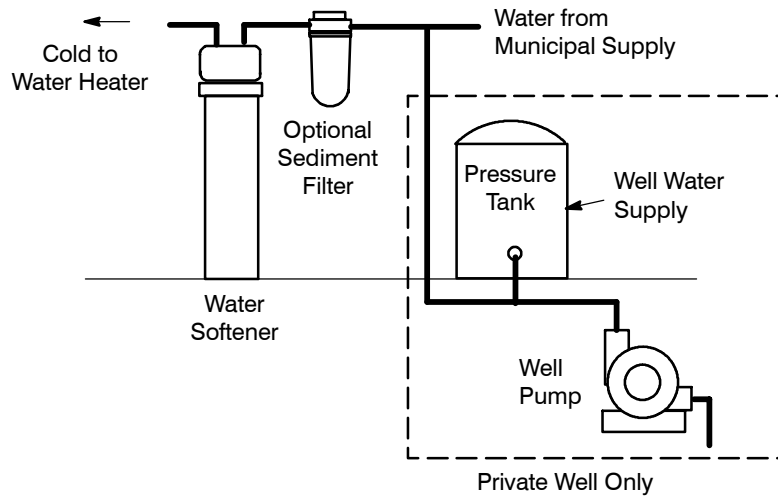

**Figure 4**
**\*VALVE DRAIN OPTIONS:** Flexible drain hose is not allowed in all localities (check your plumbing codes). For a rigid valve drain run, cut the barbed section off the drain fitting for access to the 1/4" pipe threads. Then plumb a rigid drain as needed (see Figure 4).
1. Connect a length of 3/8" or 7/16" I.D. hose (check codes) to the valve drain elbow, on the controller, see Figure 4. Use a hose clamp to hold the hose in place. Route the hose out through the notch in the Faceplate Cover.